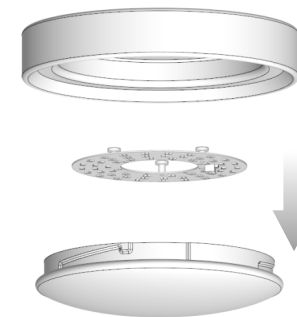

Fig. 1.2
- 1.3 Turn the lampshade counterclockwise to disassemble it. Then, detach the LED light kit from the light kit pan directly, as it is held in place by magnets as shown in Fig. 1.2.